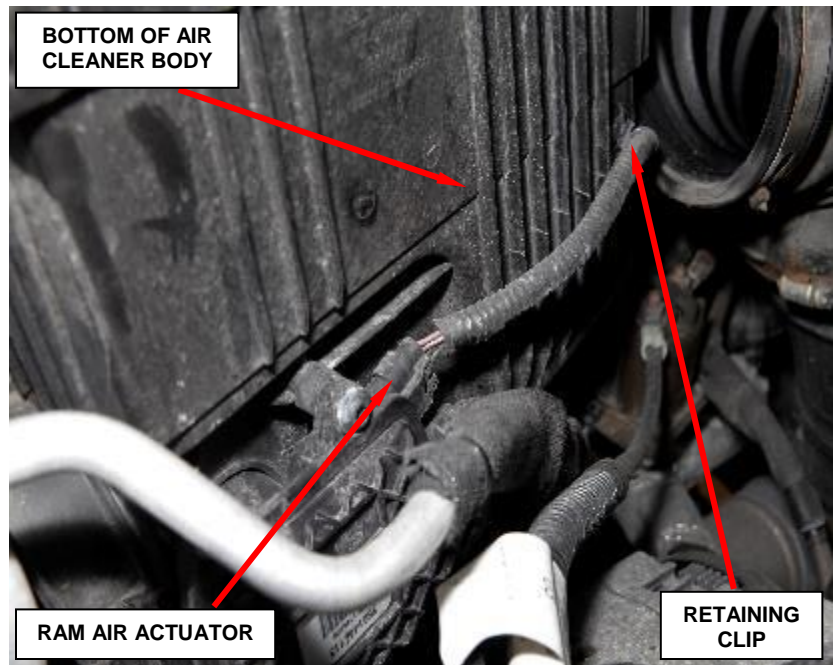

Figure 8 - Ram Air Actuator
- g. Disconnect the ram air actuator wire harness connector (Figure 8).
- h. Release the lower wire harness retaining clip from the air cleaner body and remove the air cleaner body (Figure 8).